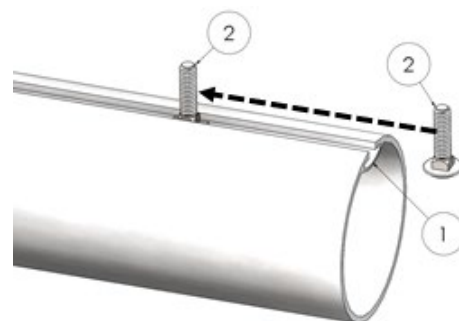

Figure 3.2
Count grommets on tarp and insert equal number of carriage bolts (2) in tarp axle track (1) as shown in Figure 3.2.